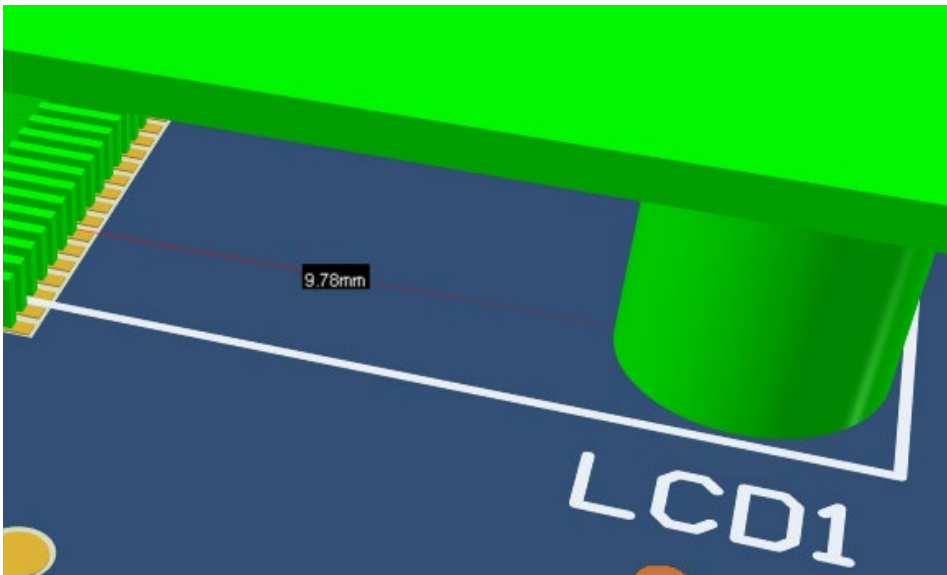

Figure 7. Collision between FPGA and LCD is indicated by a fine horizontal line
27. Note how the collision is now indicated in the X and Y Axis with a fine horizontal line as shown in Figure 7.